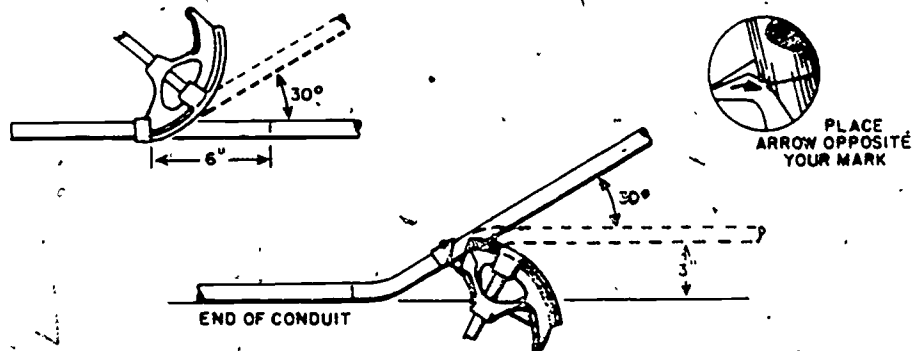

Figure 22
2. Place marks on conduit 6" apart shown in figure 22.